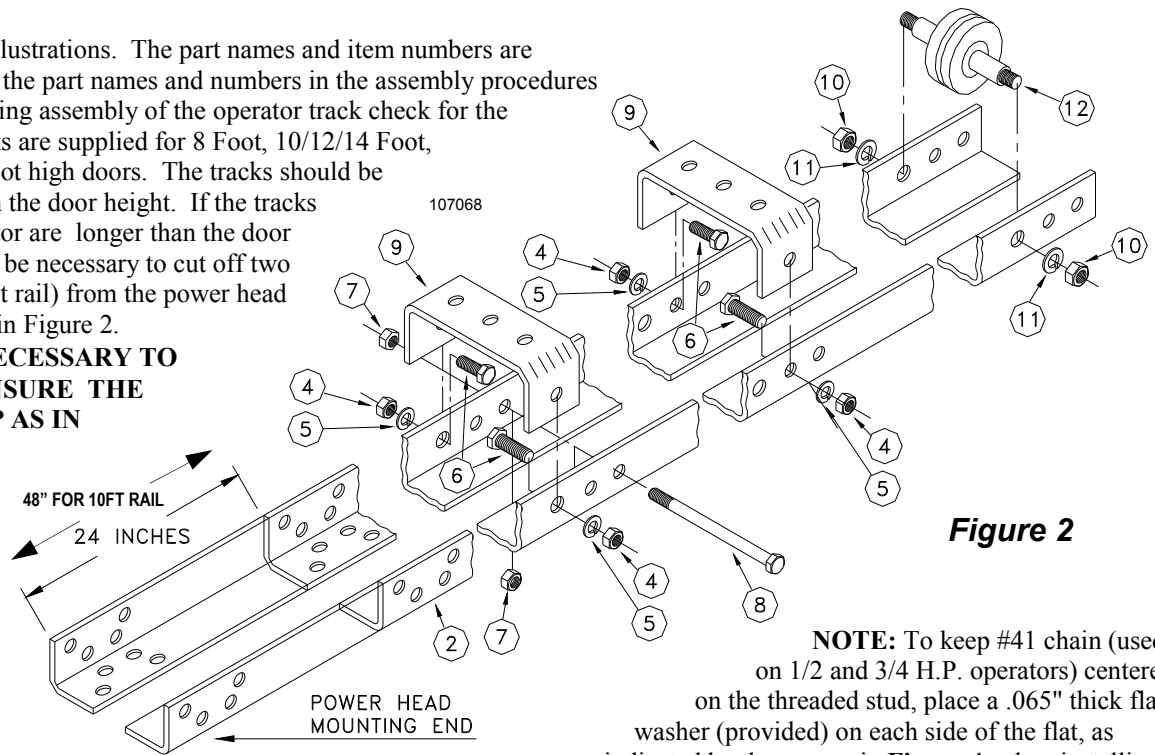

Figure 2
Refer to Figure 1 parts illustrations. The part names and item numbers are referenced identically to the part names and numbers in the assembly procedures that follow. Before starting assembly of the operator track check for the proper length. The tracks are supplied for 8 Foot, 10/12/14 Foot, 16/18 Foot and 20/22 Foot high doors. The tracks should be three (3) feet longer than the door height. If the tracks supplied with the operator are longer than the door height plus 3 feet, it will be necessary to cut off two feet (or 4 feet for 10 Foot rail) from the power head mounting end as shown in Figure 2.
CAUTION: WHEN NECESSARY TO CUT THE TRACK ENSURE THE ENDS ARE LINED UP AS IN FIGURE 2.
1) Assemble the operator track by assembling the items as shown in Figure 2.